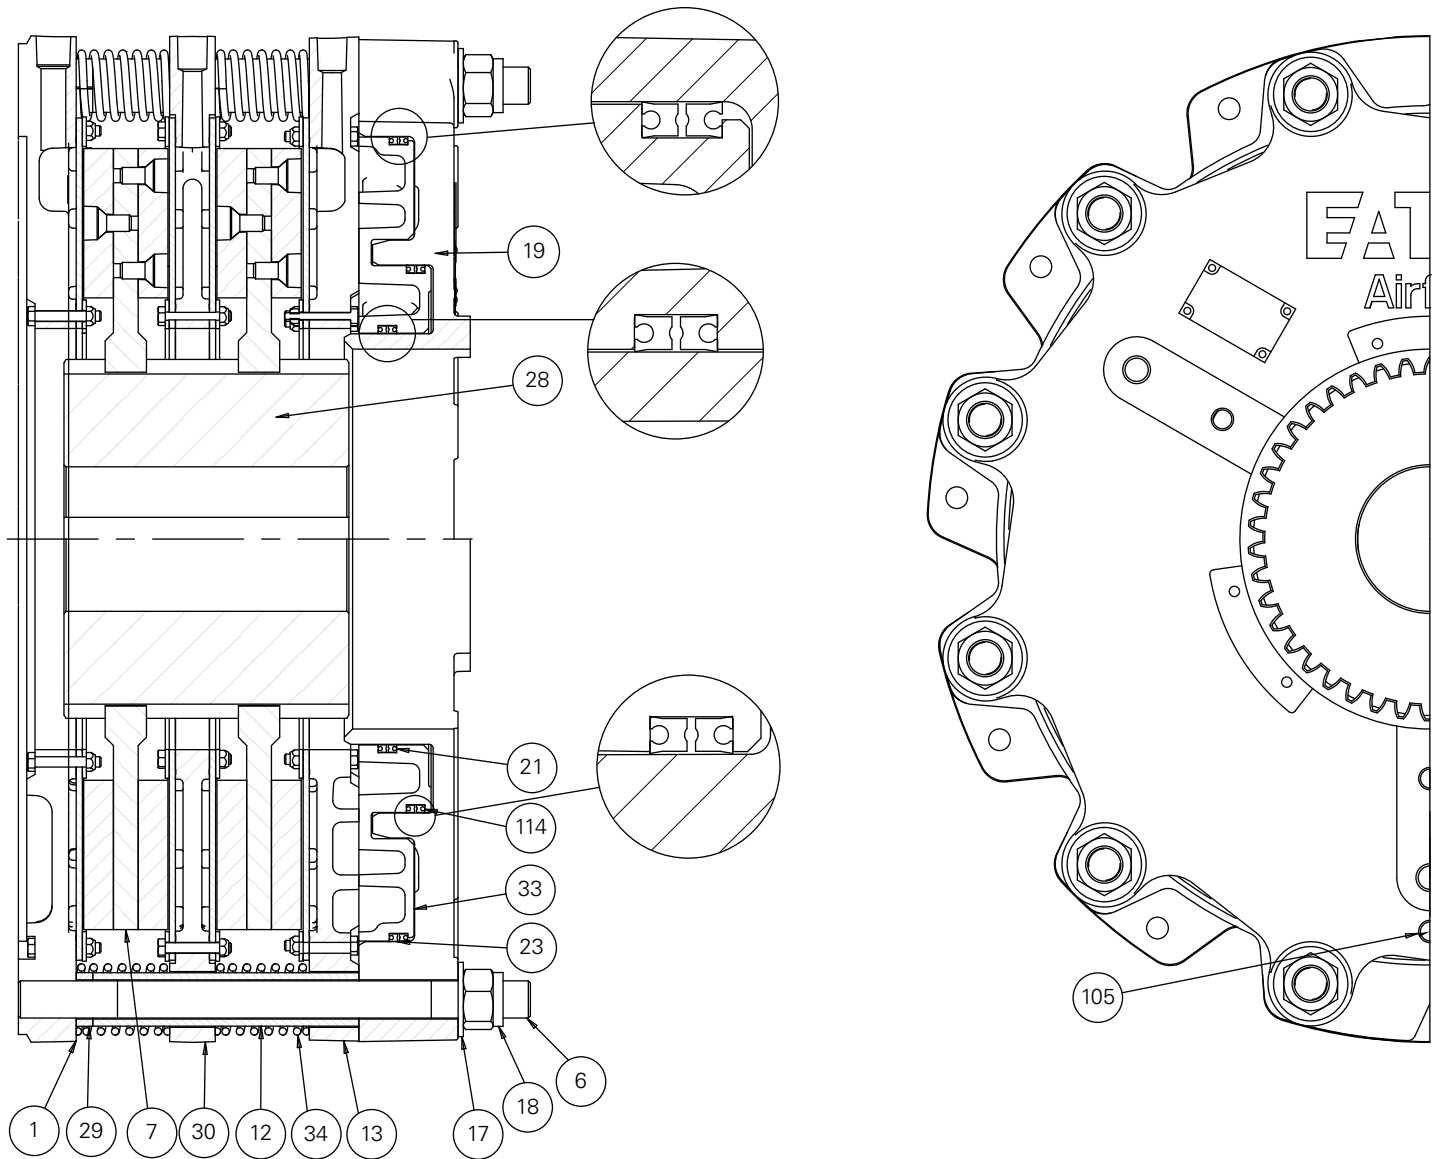

Figure 1
- 1.2.1 Referring to Figure 1, the operation of the Airflex WCBD brake assembly is identical to that of the Airflex WCB2 tensioner/brake with the exception of the dual chambered piston/cylinder power head assembly. In the WCBD brake assembly, air pressure is applied to either the inner, outer, or both sets of the ports in the dual cylinder (19), causing the dual piston (33) and pressure plate assembly (13) to move towards the mounting flange, compressing the release springs. As the applied pressure to either or both of pressure chambers increases, the friction disc(s) are clamped between the pressure plate and mounting flange, stopping or controlling the shaft that the discs are mounted upon. Modulation of air pressure then controls applied torque of the WCBD brake assembly. The inner cylinder/piston chamber area of the power head is referred to as the small cylinder/piston, and the outer cylinder/piston chamber area is referred to as the large cylinder/piston.
4.1.7 Remove the seals. Note how the lips of the Inner (21), Outer (23), and Intermediate (114) seals are oriented. Refer to Figure 1
Note: Upon disassembly and inspection, a one-piece seal may be found for all intermediate seals (114) and on the inner (21) and outer (23) seals. These seals have since been superseded with two seals being installed 'back-to-back' as shown in Figure 1.
4.1.10 Install the new seals in the grooves in the piston, noting the orientation of the seal lips. See Figure 1.